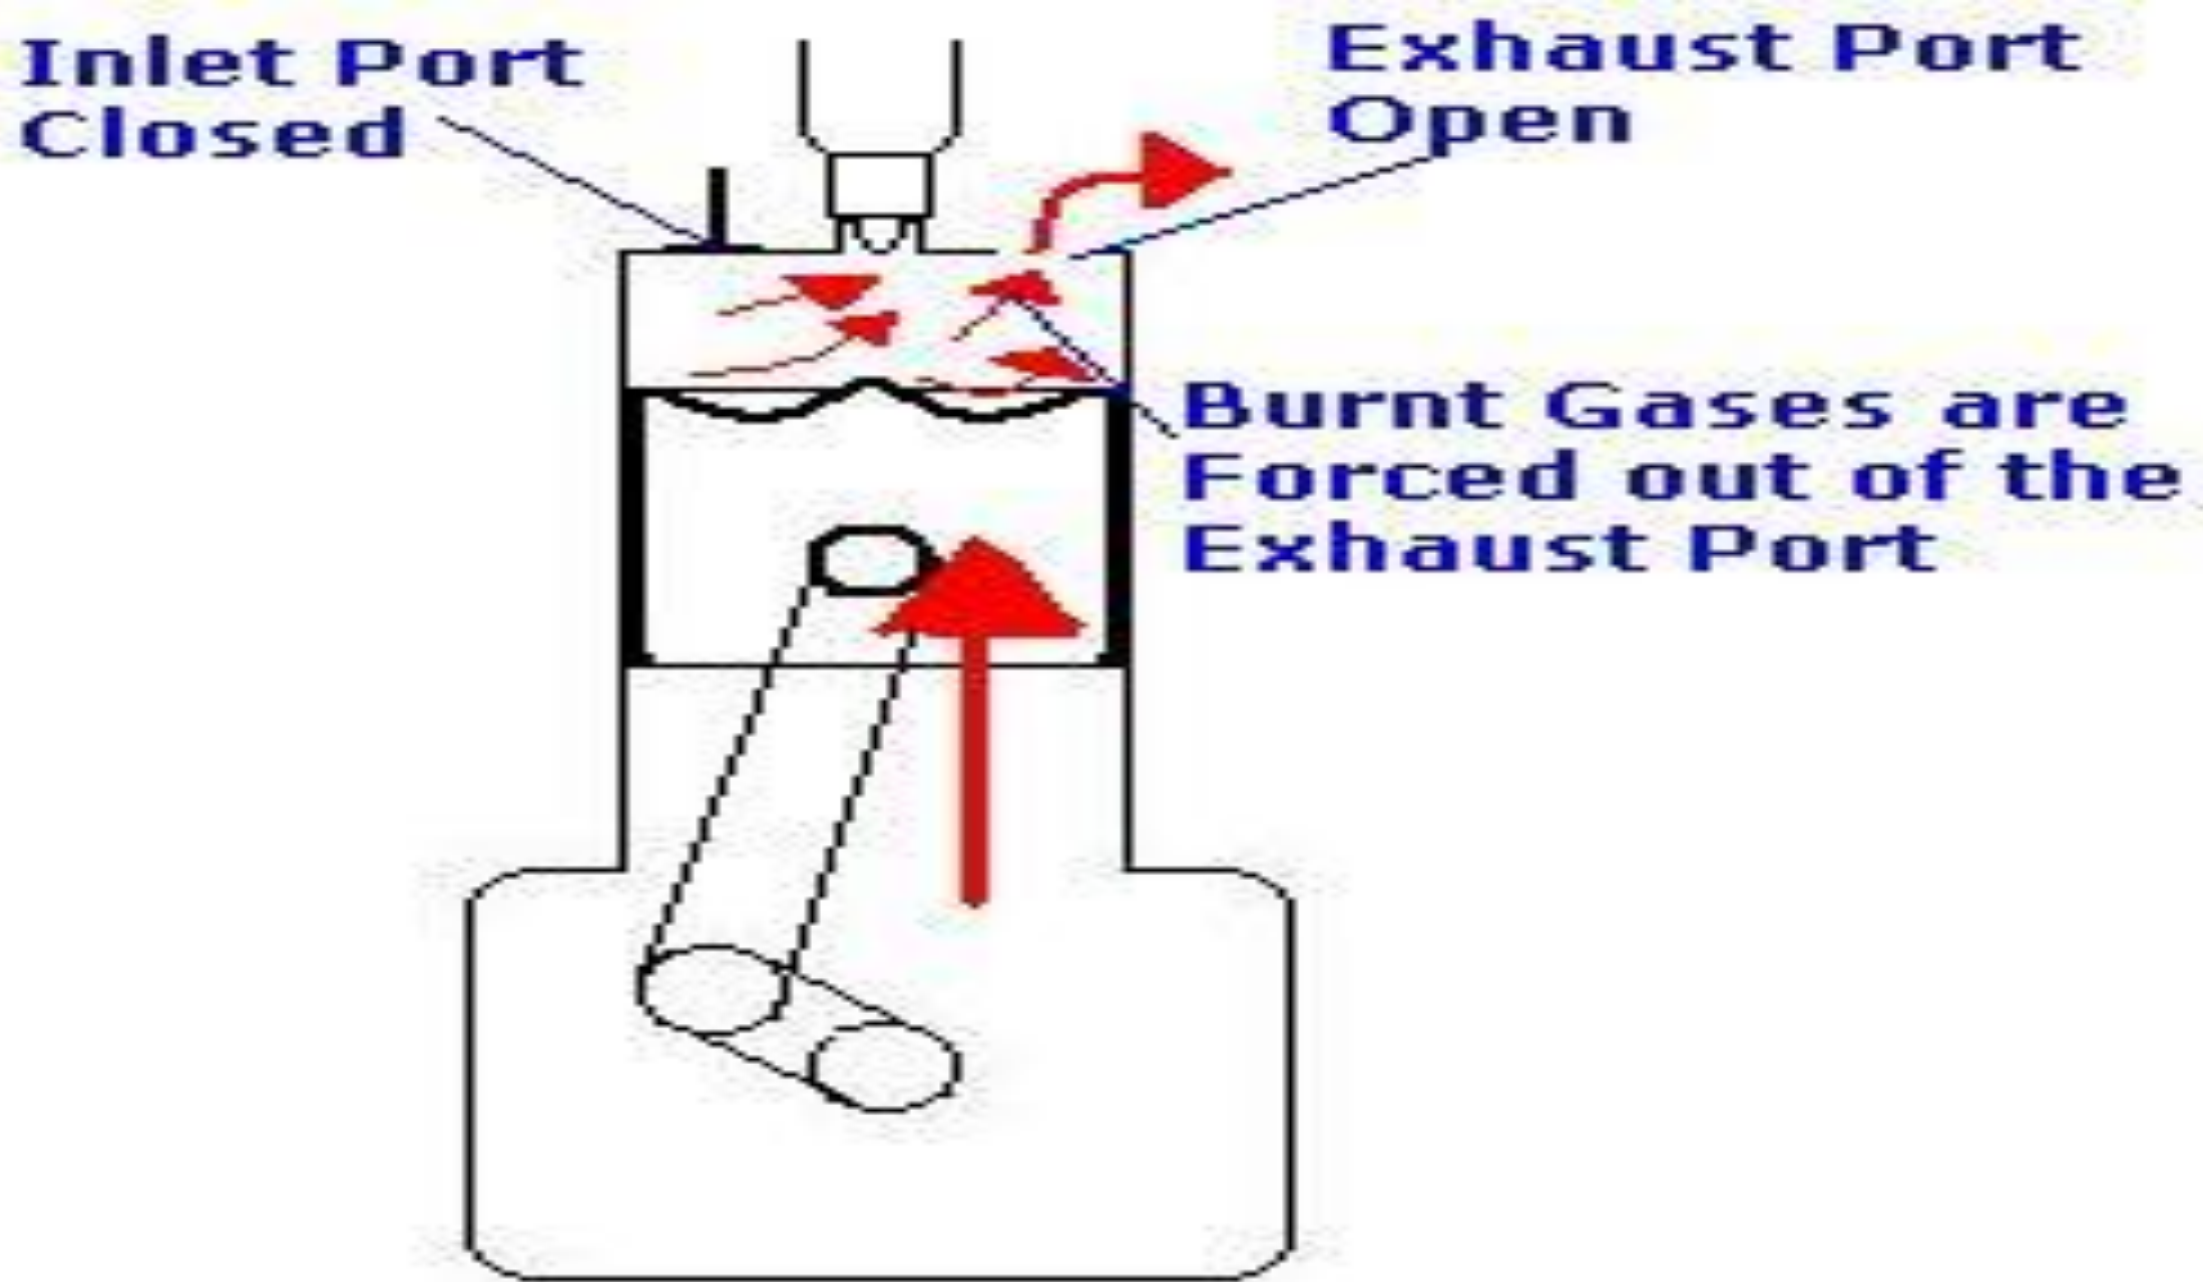

Figure13: Exhaust stroke followed by exhaust blowdown.
- **Exhaust stroke** : Same as with an SI engine, refer figure 13.